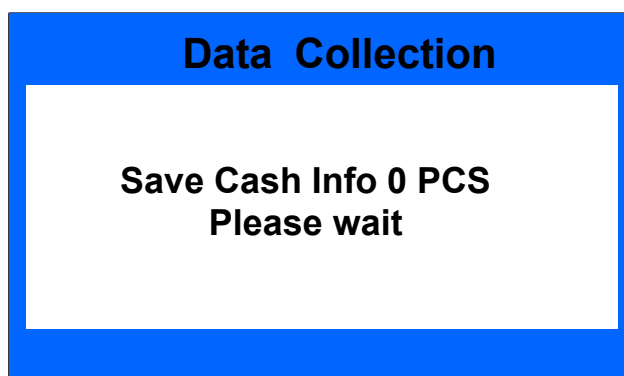
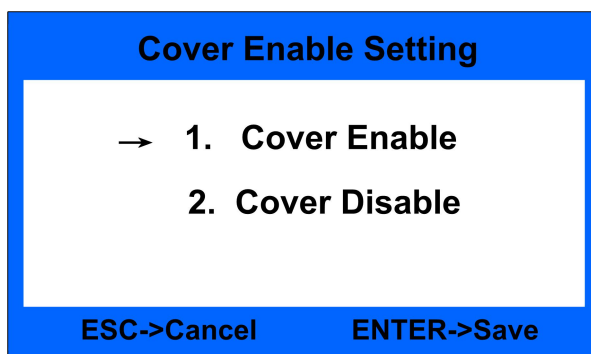

Fig.35
Fig.41
Under Fig.35 interface to choose item 5. Cover and then press ENTER key to come into the following setting interface, shown as Fig.41: